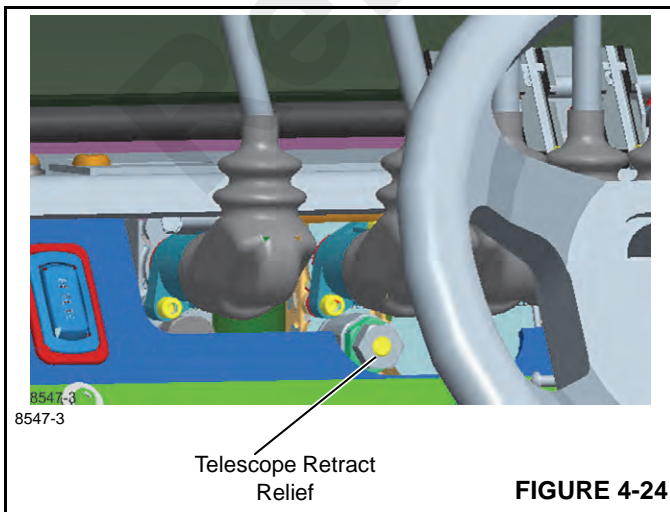

FIGURE 4-24
3. If the pressure needs adjusted, loosen the jam nut on the tele retract relief, shown in Figure 4-24, and turn the tele retract relief adjustment until  $19500 \pm 350$  kPa ( $2825 \pm 50$  psi) is showing on the pressure gauge; clockwise increases pressure, counterclockwise reduces the pressure.